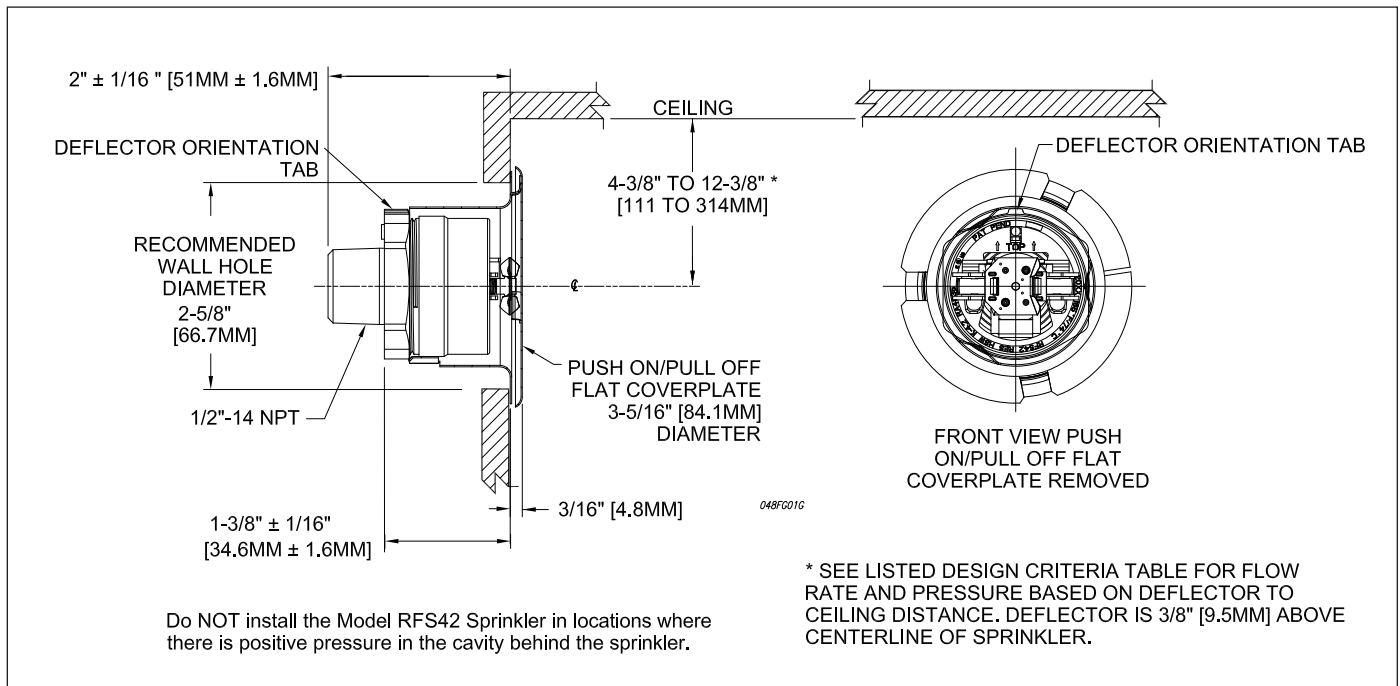

Fig. 1
Do not remove the factory installed plastic protective cap since it is sized to fit inside the G6 wrench. Note that the sprinkler can only mate when the sprinkler's deflector orientation tab (Fig. 1) is aligned with wrench's key-way. The G6 wrench is provided with bubble level pad and TOP marking, to allow the proper orientation of the horizontal sidewall deflector. Final leveling can be done after leak proof joint is obtained with a minimum to maximum torque of 8 to 18 ft-lbs (11 to 24 N·m). Leave the protective cap on to protect the sprinkler while the wall is plastered, wallpapered or painted. The protective cap must be removed and the listed cover plate installed prior to the sprinkler system being placed in service. A 2⁵/₈" (67 mm) diameter hole must be cut in the wall for the sprinkler assembly to extend through.
4. The sprinkler fitting shall be installed so that the rear of the sprinkler is 2 1/16" +/- 1/16" from the finished surface of the wall. Verify wall assembly dimensions prior to installation to ensure that the cover plate attaches to the sprinkler and seats against the finished wall surface (Fig. 1).